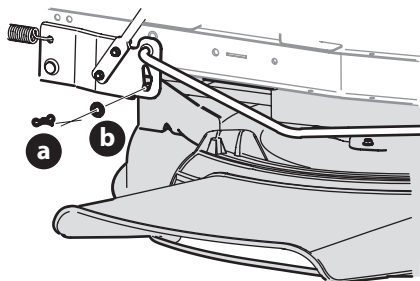

Figure 32
3. Remove the bow-tie cotter pin (a) and flat washer (b) from the deck lift assembly and retain for reinstallation later (Figure 32).